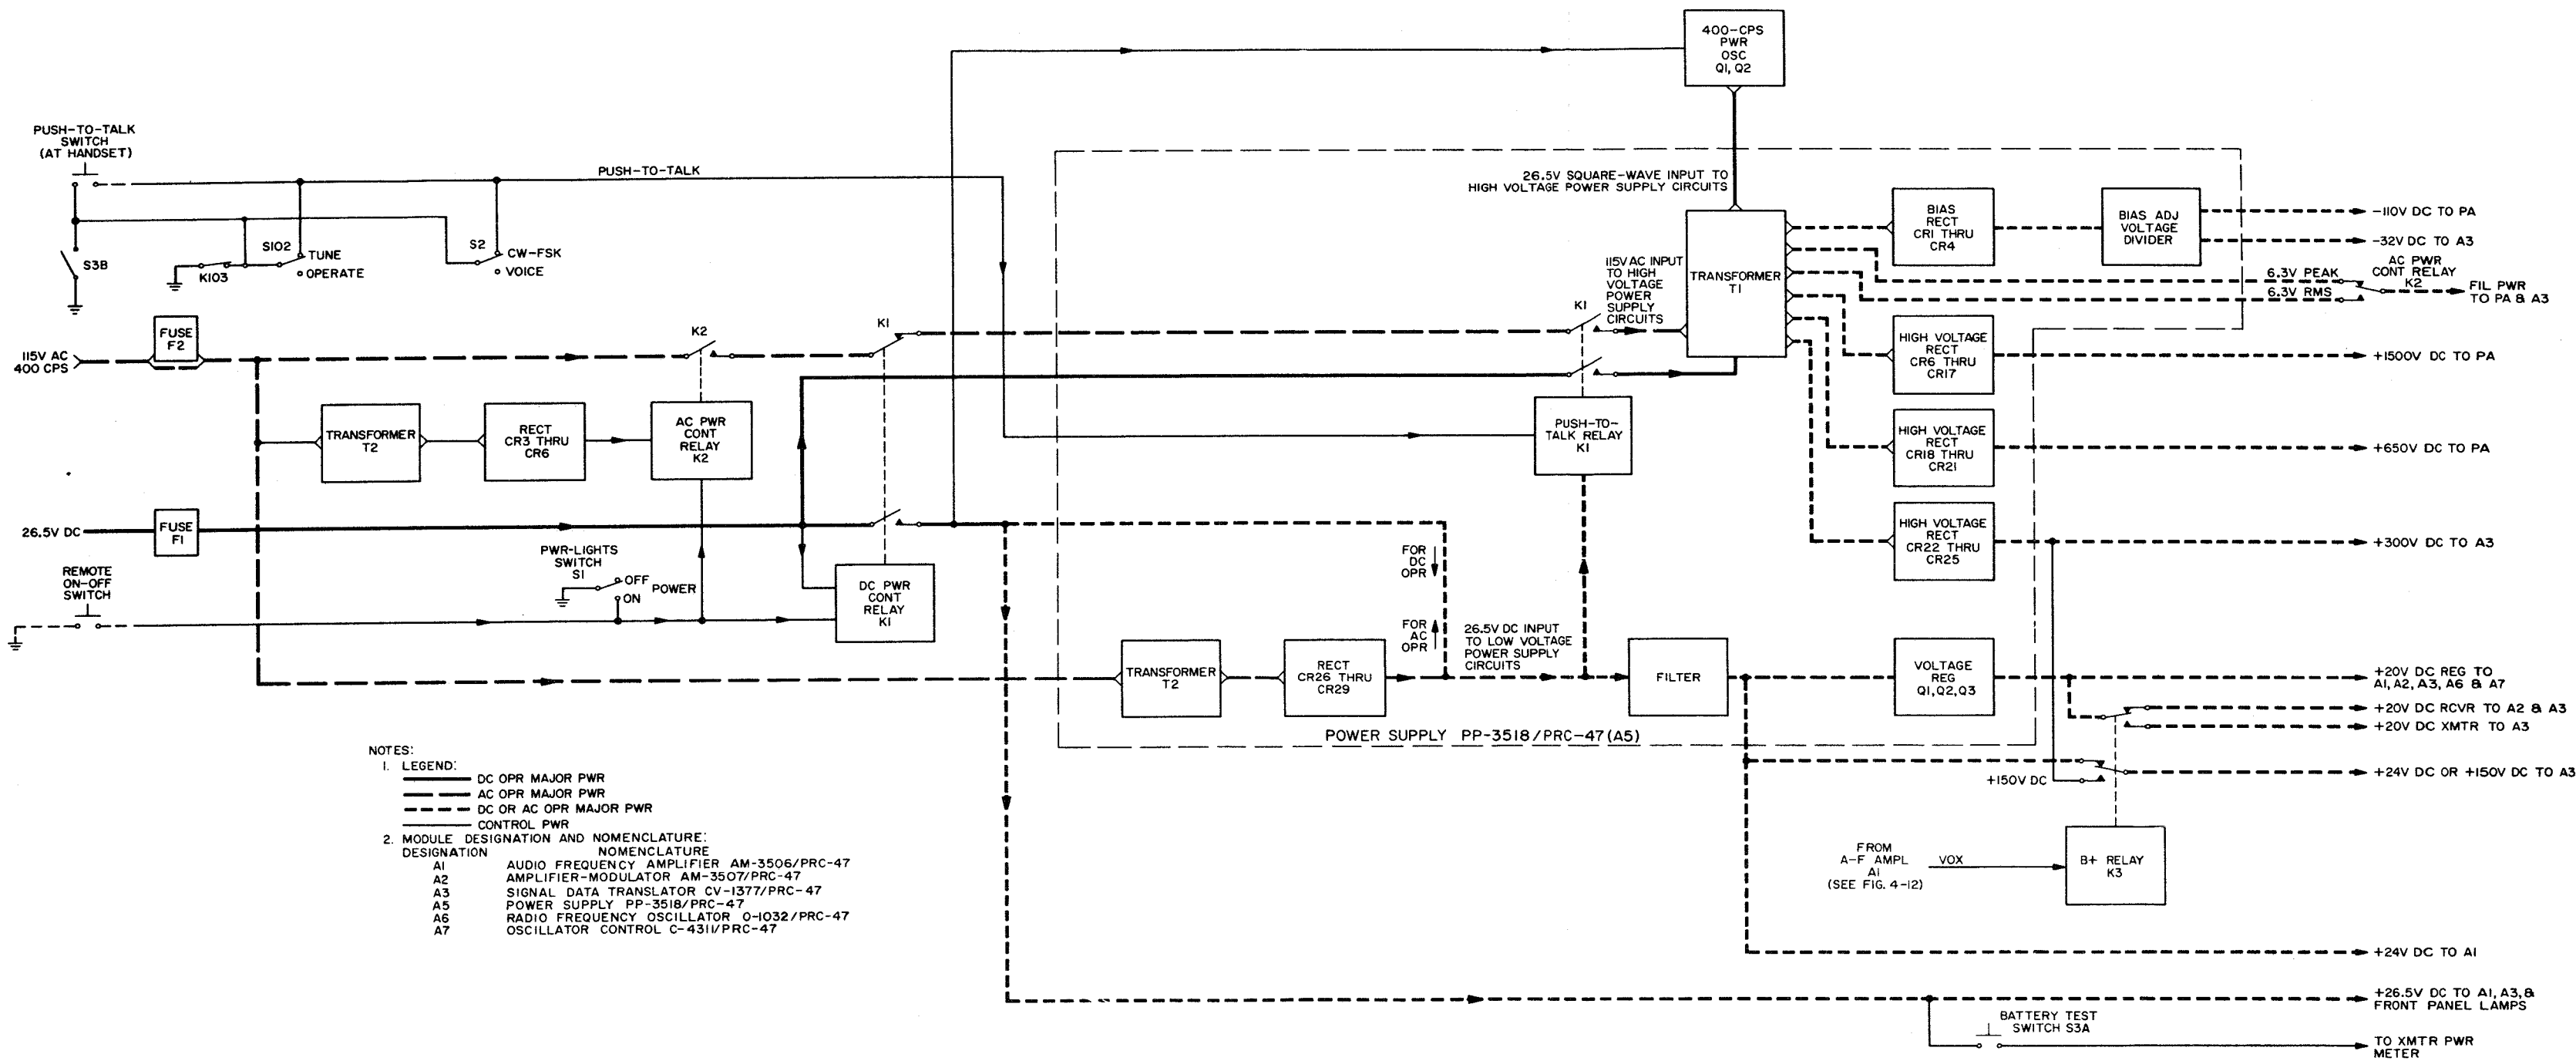

Figure 4-19. Power Supply Circuits, Detailed Block Diagram
b. POWER SUPPLY CIRCUITS, DETAILED DESCRIPTION. (See figure 4-19.)